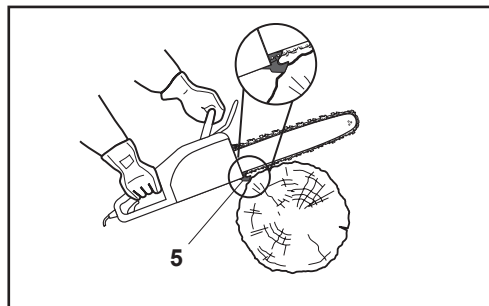

Fig. 18
5. Ensure the saw chain (12) is running at full speed before it makes contact with the wood. Use spiked bumper (5) to secure the product onto the wood before starting to cut and use it as a leverage point while cutting (Fig. 18).